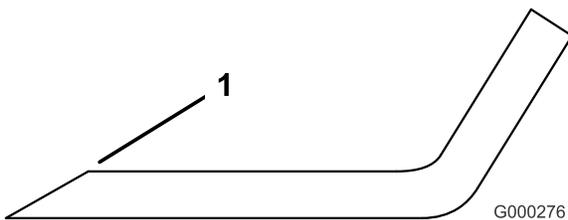

Figure 61
1. Use a file to sharpen the cutting edge at both ends of the blade (Figure 61).